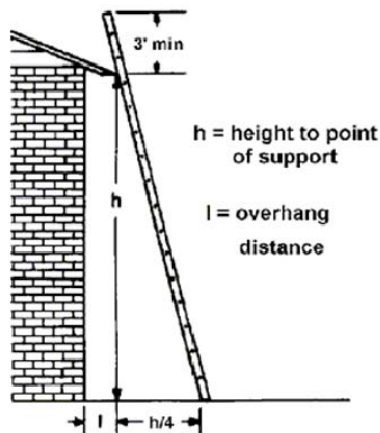

Figure 2. The base of a straight ladder should be one foot out of every four of height to the point of support
- Make sure the ladder rises at least three feet above the landing (figure 2).